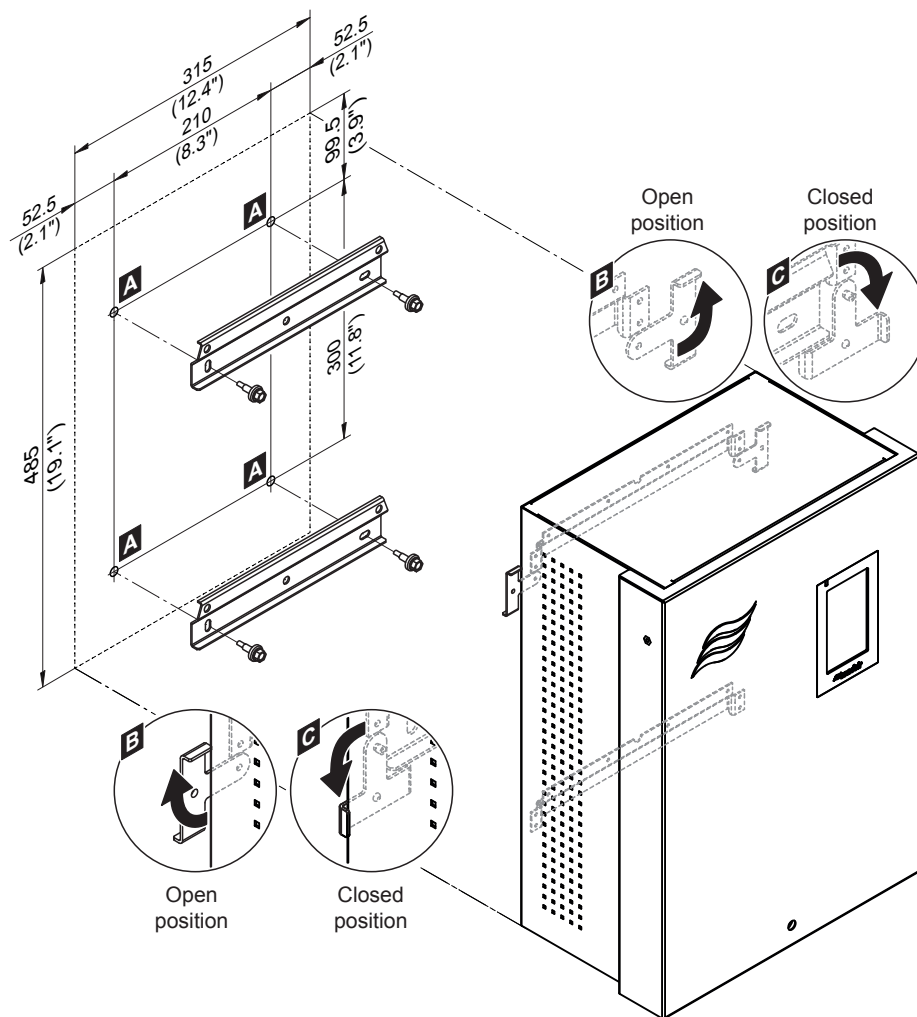

Fig. 43: Mounting the control unit of Condair ME Control - dimensions in mm (inch)
3. Move the locking devices on the back of the control unit to open position (see detail "B" in Fig. 43).
4. Hang up the control unit onto the wall supports. Then, secure the control unit to the upper wall support by turning the locking devices on both sides of the control unit to closed position (see detail "C" in Fig. 43).